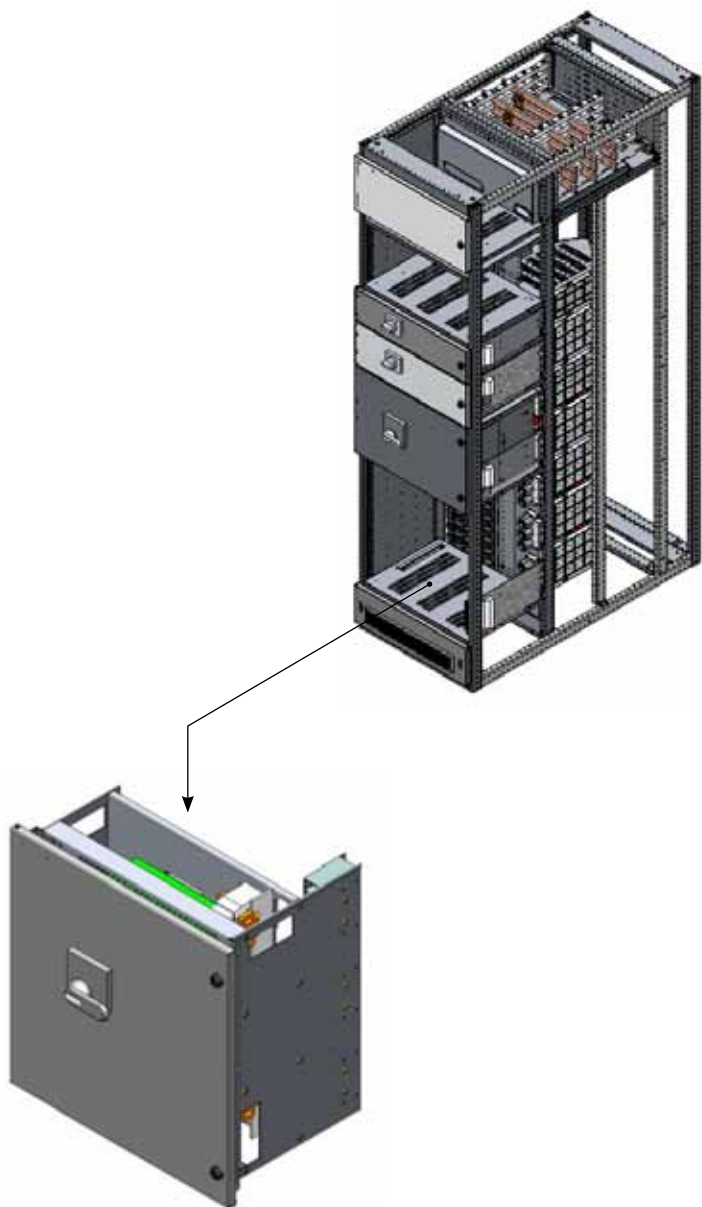

Fig. 13 Plug-In Module (MCCB Fixed)
- rear plug-in module (see fig. 13).